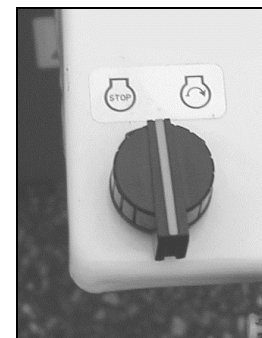

Figure 9
- This switch allowed to start or stop the engine (Figure 9).